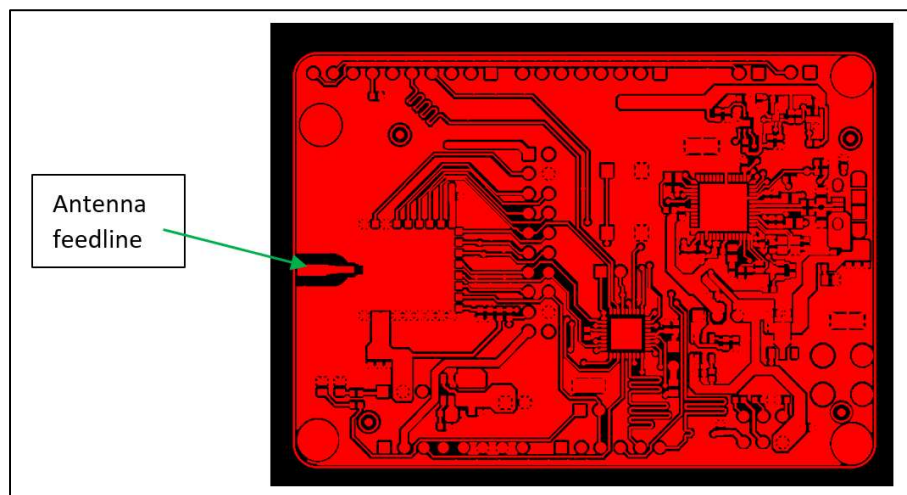
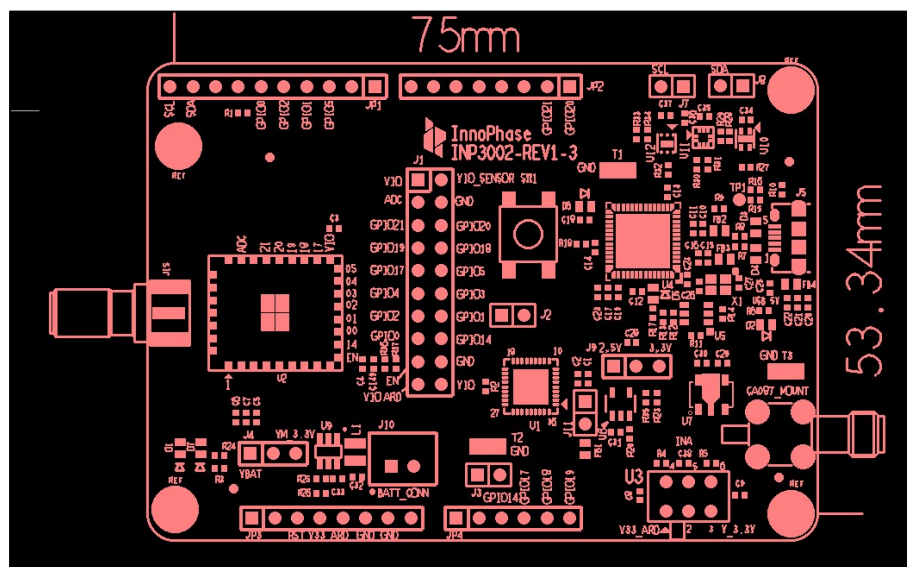

Figure 18: Antenna placement diagram
Figure 19: INP1012 module antenna connector placement
2. Feed Line coming out of the module should be 50Ω impedance matched as shown in Figure 18 and Figure 19 indicates the connector placement for the antenna.